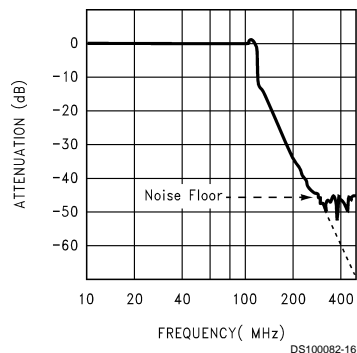

FIGURE 9.
*Figure 9* shows the large signal sine wave frequency response of the LM2403. The frequency response rolls off very rapidly above the bandwidth limit of the amplifier. There are two reasons for this fast response roll-off:
2. The internal feedback network of the closed loop amplifier holds the gain at -14 until the loop gain drops below unity. Above this frequency, the amplifier response falls with the open loop gain of the amplifier, as the feedback ceases to have any significant effect. There is also a change in the impedance match between the op-amp and the emitter follower output stage with large signals at higher frequencies. This creates a gain boost that extends the bandwidth, then gives a sudden roll off as shown in *Figure 9*. The exact response of this roll off may vary slightly depending upon operating conditions, signal amplitude etc.